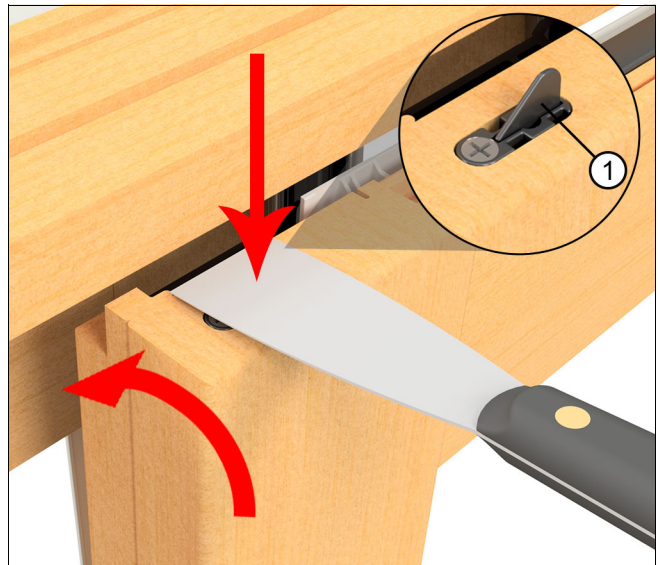

Figure 41
5. While depressing the panel guide fin, tip the panel in place. When the fin clears the head jamb, release it into the head jamb groove. See Figure 41.